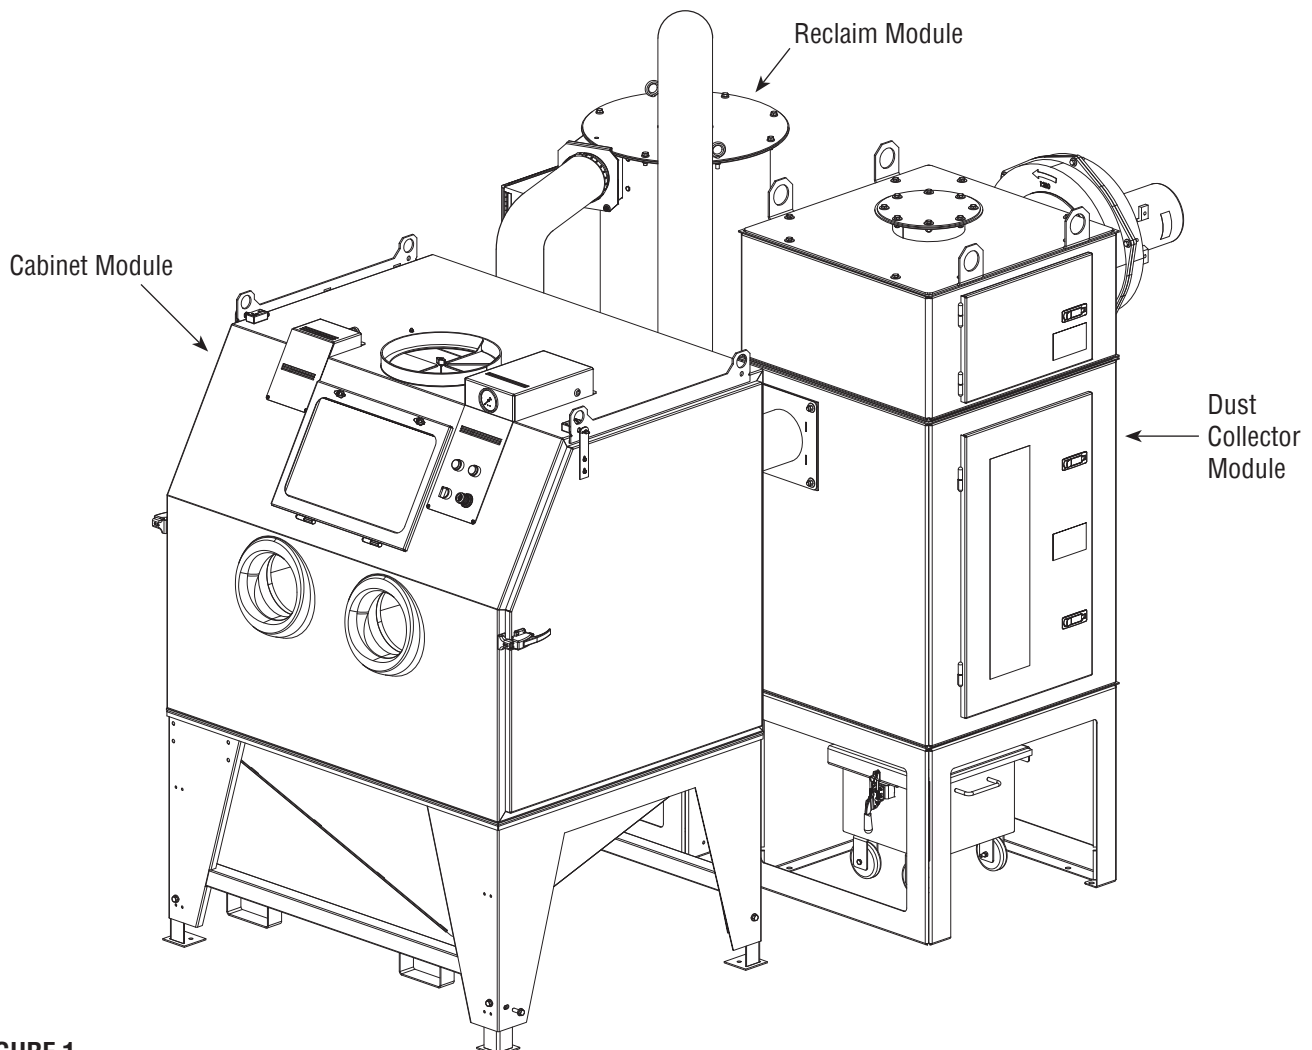

**FIGURE 1**
**1.2.2** | Refer to **Figure 1** for the general arrangement of blast cabinet system components. This illustration is intended to show overall equipment layout only and should not be used as a detailed assembly reference. Actual configuration and appearance of individual modules may vary from what is shown in **Figure 1**.
**2.1.1 |** Refer to **Figure 1** for general arrangement. Locate components near compressed air and electrical service. Installation must comply with OSHA and local codes. Allow access to all doors and service points, clearance for dust collector maintenance and dust removal, and space for handling